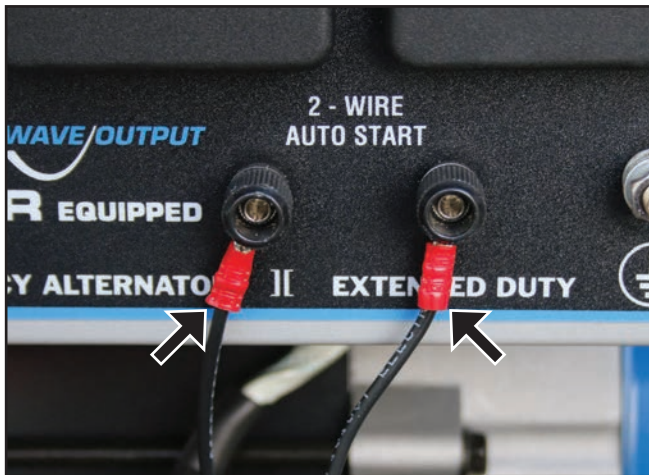

Figure 25 – Connection to the 2-Wire Auto Start Terminals
4. Connect the 2-wire auto start terminals to an external “dry” or voltage-free circuit that will provide the start and stop commands to the generator by closing and opening the circuit, respectively (See Figure 25).